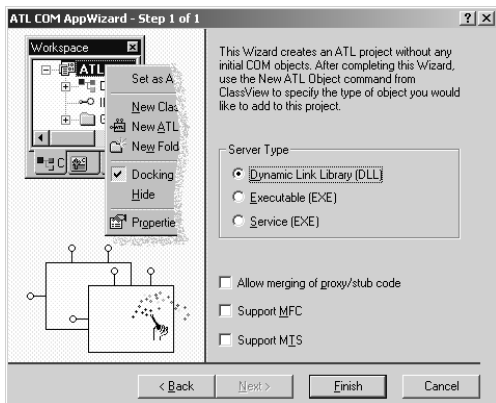

Figure 3. Selecting a DLL project.
After the project name has been specified, pushing the *OK* button will lead to the *ATL COM AppWizard Dialog*. (see Figure 3). The first question asked by the wizard is which COM server to generate. IMA 1.0 components are contained in *Dynamic Link Libraries (DLLs)*, which should be selected. None of the other options on this page should be checked¹. Pushing *Finish* will then generate a confirmation screen. Pushing *OK* at the confirmation screen will return you to the main screen, with a new node added to the *Workspace View (WV)* on the left hand side of the screen.